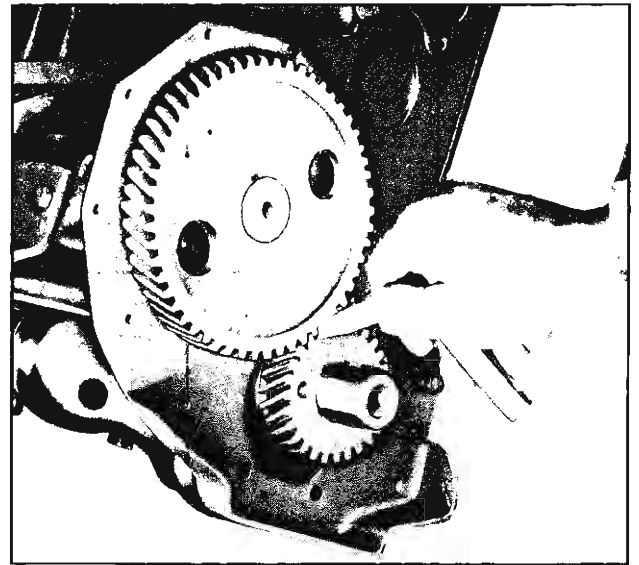

Fig. 27—Checking Timing Gear Backlash
5. Check the backlash between the timing gear teeth with a narrow feeler gauge (fig. 27). The backlash should not be less than .004" nor more than .006".